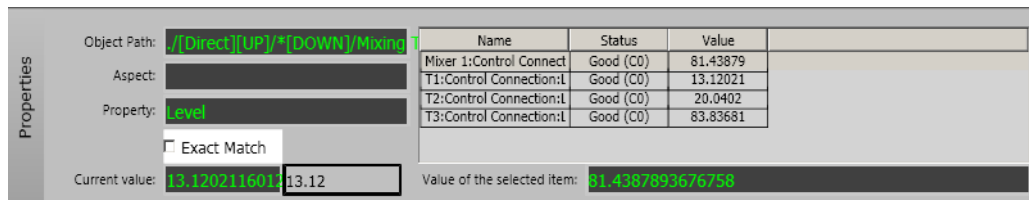

Figure 174. Properties
3. Drag and drop **Text** primitives (**Toolboxes > Graphic Primitives**) into the edit panel. Label the primitives as **Object Path**, **Aspect**, **Property**, **Current Value**, and **Value of the selected item** as shown in Figure 174.